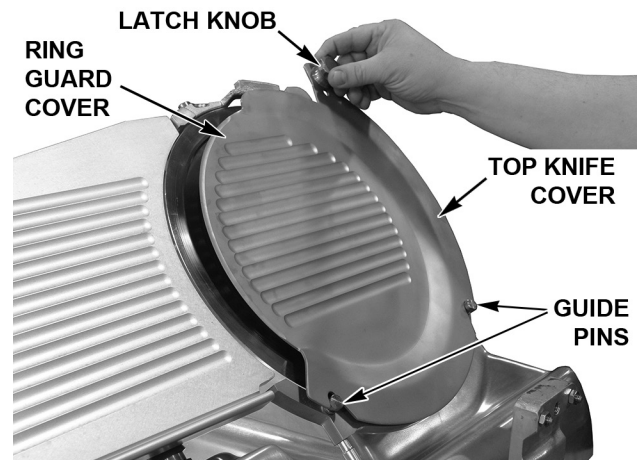

Fig. 9
- Remove the Top Knife Cover (Fig. 9) by pulling on the Latch Knob. The Top Knife Cover is held in place by a magnet under the Latch Knob.